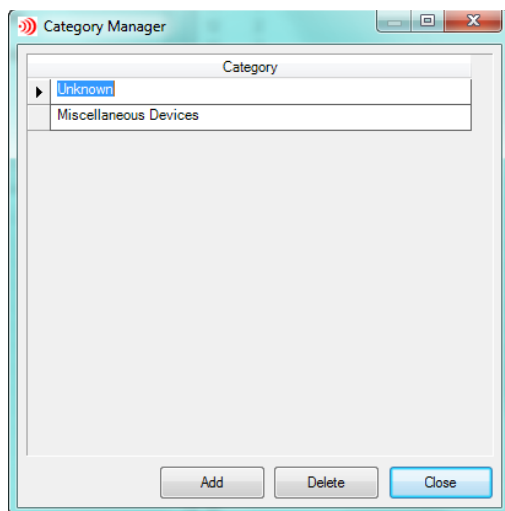

FIG. 25 Category Manager Dialog
2. Select **Edit > Categories** to open the *Category Manager* dialog (FIG. 25):